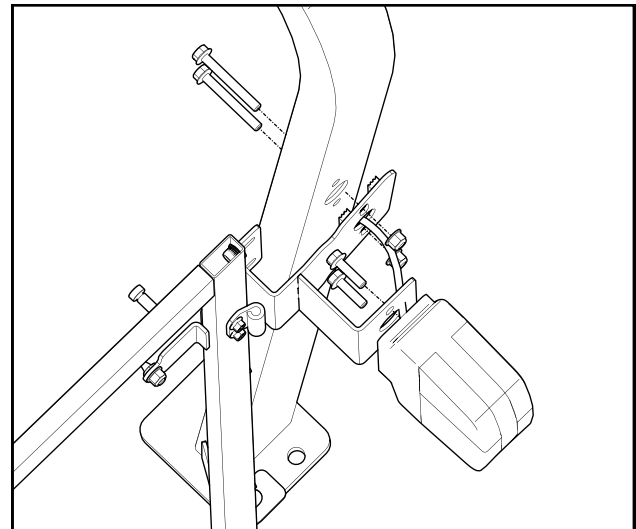

Fig. 8.2 (Non-Folding ROPS Brackets)
8.2 Install the left ROPS bracket to the fixed ROPS as shown. Repeat on the right side. Leave bolts loose. See Fig. 8.2
8.4 Reinstall Vehicle lights to open position on ROPS brackets. See Fig. 8.2 or 8.3, depending on vehicle model. Feed wire down through ROPS and reconnect under vehicle fender.